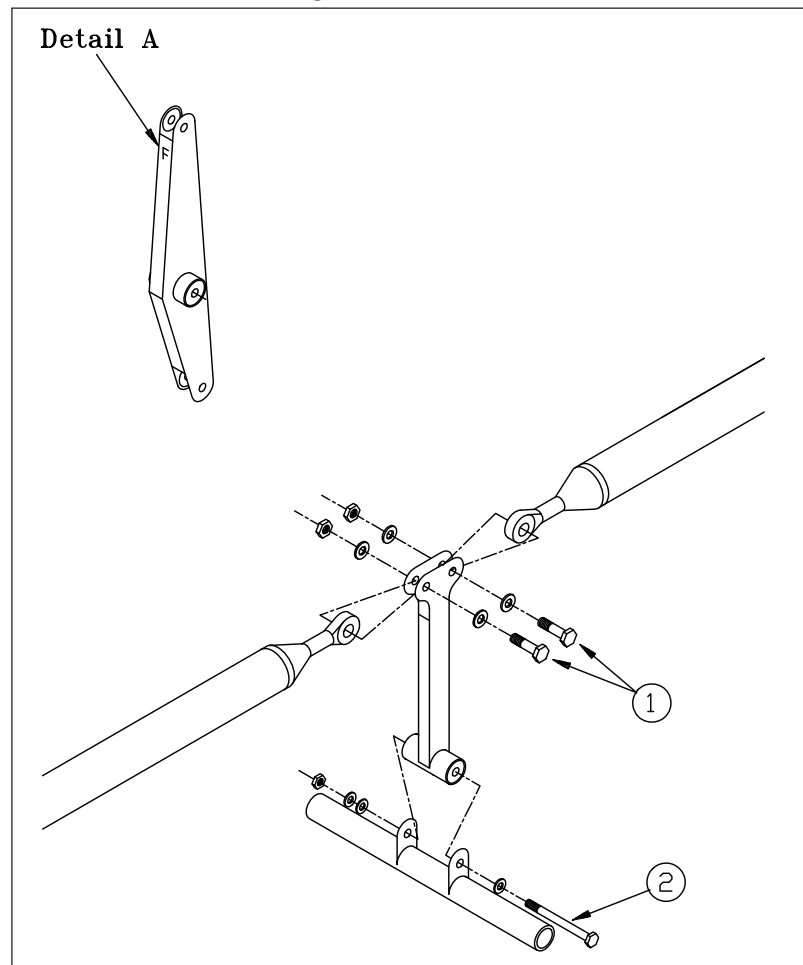

Figure 8
Refer to Figure 8. All control rods are attached to the control levers in the same way with LN bolts, washers and self-locking nuts. The control rods inside the wing are interconnected by ground bonding leads fastened to the rod ends by additional nuts. So the rod ends have to be disassembled, when the ground bonding leads shall be disconnected. In this case also refer to Chapter 27-00-01.
Refer to Figure 8
- 3 Remove the M5 attachment bolt (2).
- 5 Reverse procedure to install the bellcrank using sufficient washers (min. 2) at the nut side of the bolt to cover the shank (except the rocker type bellcrank: use only one washer on each side). Replace the selflocking nuts. Observe the first note of Chapter 27-00-00. To ensure installation of the elevator rocker type bellcrank in correct direction this bellcrank is marked by an "F" which indicates the front side (refer to detail A of Figure 8).